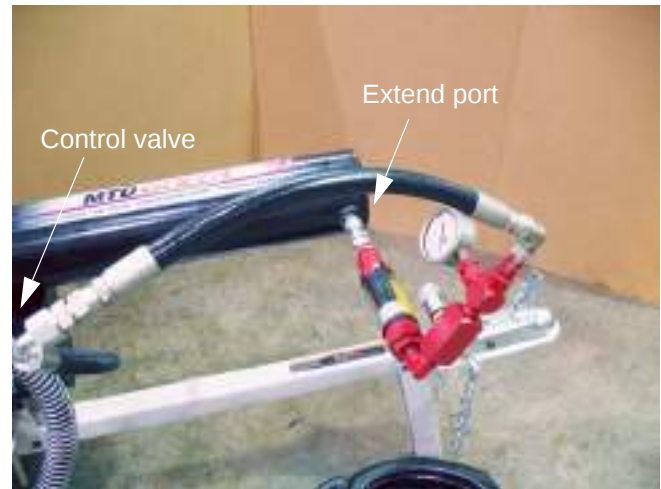

Figure 3.20
- E. Install the test gauges between the log splitter control valve and the extend port on the hydraulic cylinder. See Figure 3.20.